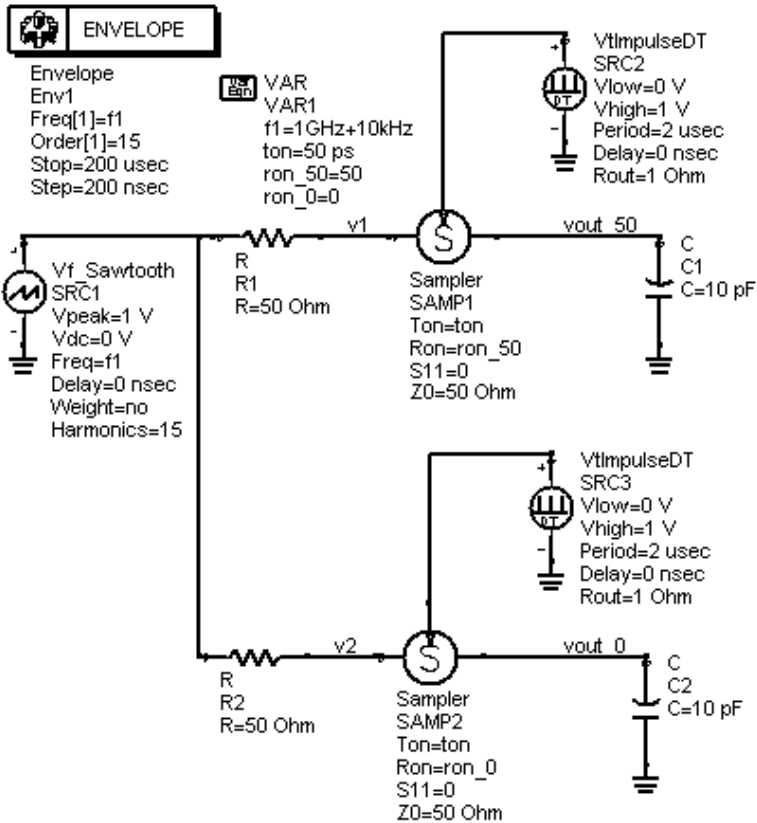
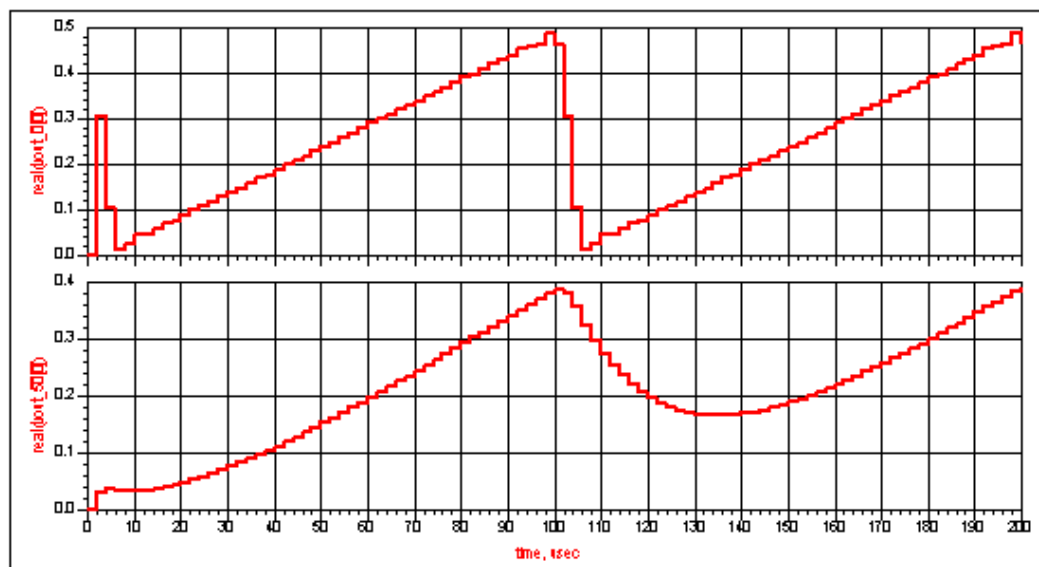

Figure 6-2. Circuit Envelope Example,
Figure 6-3. Simulation Results
6. In the circuit envelope example in Figure 6-2, the input signal is a high-frequency sawtooth waveform with 15 harmonics. Its frequency is set 10 kHz above 1 GHz. The sampler is being driven at a 500 kHz rate so the output signal should be a replicated sawtooth at 10 kHz. Simulation results for two different combinations of R_{on} and T_{on} are shown in Figure 6-3. The high-efficiency mode tracks the input. The low-efficiency mode (50 ohm, 50 psec) shows its lowpass filtering impact. Note the two different time scales: 2 nsec for the input trace and 200 μ sec for the output traces.